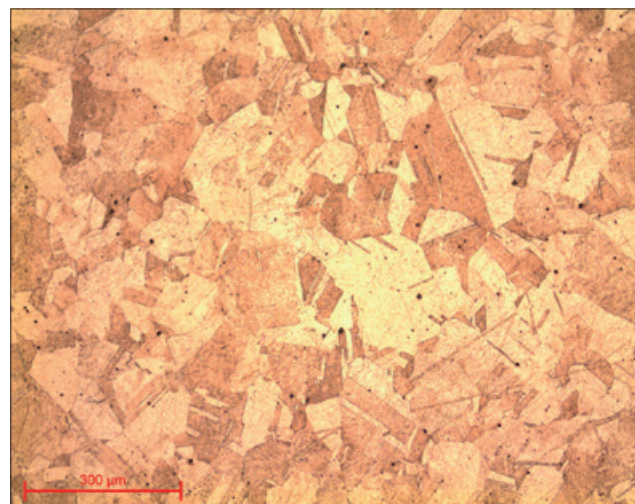

Fig. 18: Copper after etching lens x10
- potassium dichromate (Figure 18)